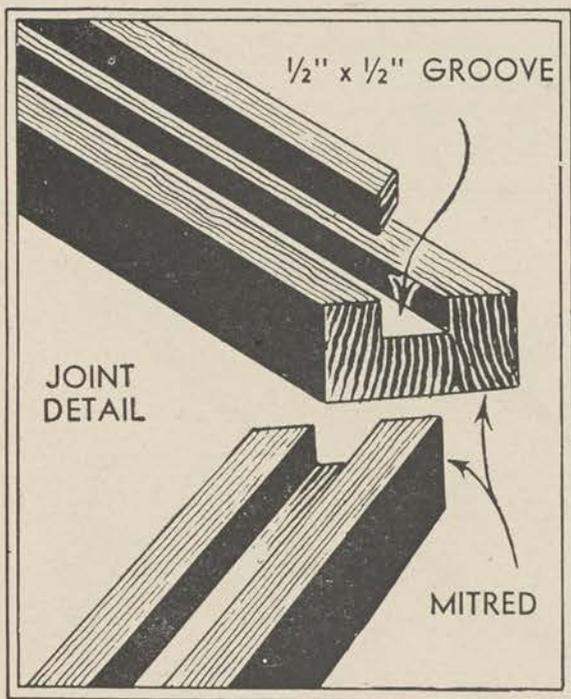

Figure 178.
b. The frame for work of average size is made from 1 $\frac{1}{4}$ -inch square white pine. Its dimensions should be about 2 inches wider and 6 inches longer than the design. There are two types of frames which differ only in their provisions for stretching the silk. In the first the frame members are mitered and grooved (fig. 178). The silk is fitted to the